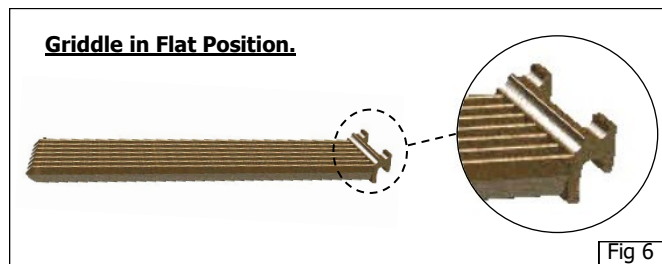

Fig 6
They can be fitted in the FLAT position (Fig 6). This is ideal if you require the flame grill effect as any fat / oil will fall directly onto the Radiants (2) and will be burnt off to give a flame grilled flavour to the food.